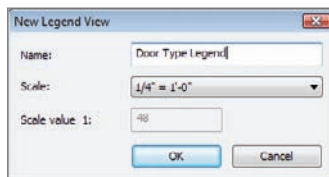

FIGURE 11.40 Results of choosing $1/4" = 1'-0"$
2. The next dialog wants you to specify a scale. Choose $1/4" = 1'-0"$. This is fine for now (see Figure 11.40).